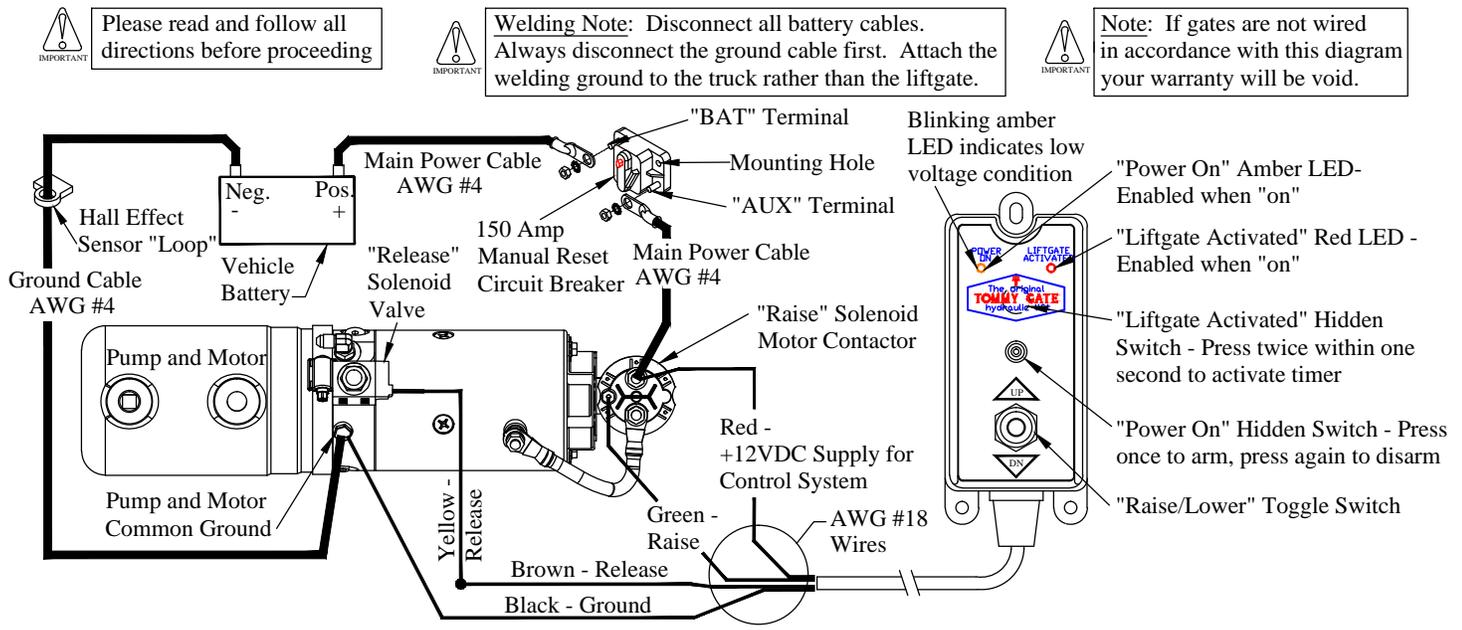

Figure 18: Wiring diagram.
3. **Push** the hidden "Power On" switch (Figure 18). The amber "Power On" LED will illuminate.
13. **Connect** the circuit breaker and battery as outlined in the *Tommy Gate Recommended Electrical Wiring Guidelines* and wiring diagram (Figure 18).